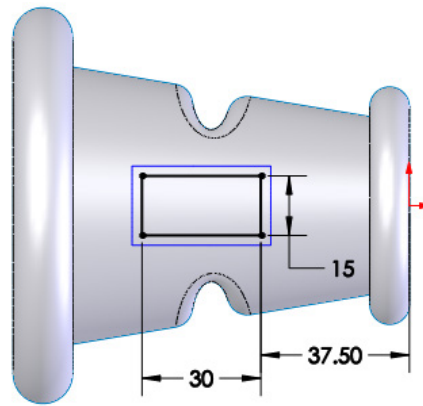
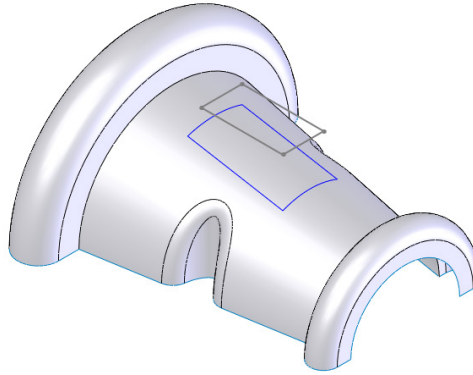

Figure 1-128 Second sketch for the loft surface
Figure 1-129 Model after creating the sketch and the projected curve
7. Invoke the sketching environment with the newly created plane as the sketching plane and then create the sketch, as shown in Figure 1-128. Then, exit the sketching environment. Figure 1-129 shows the model after creating the sketch and the projected curve.